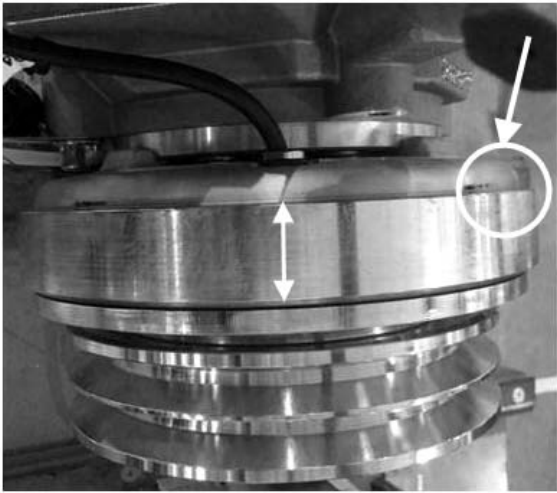

FIGURE 3
7. Unscrew and remove bolt **C** (FIGURE 3).